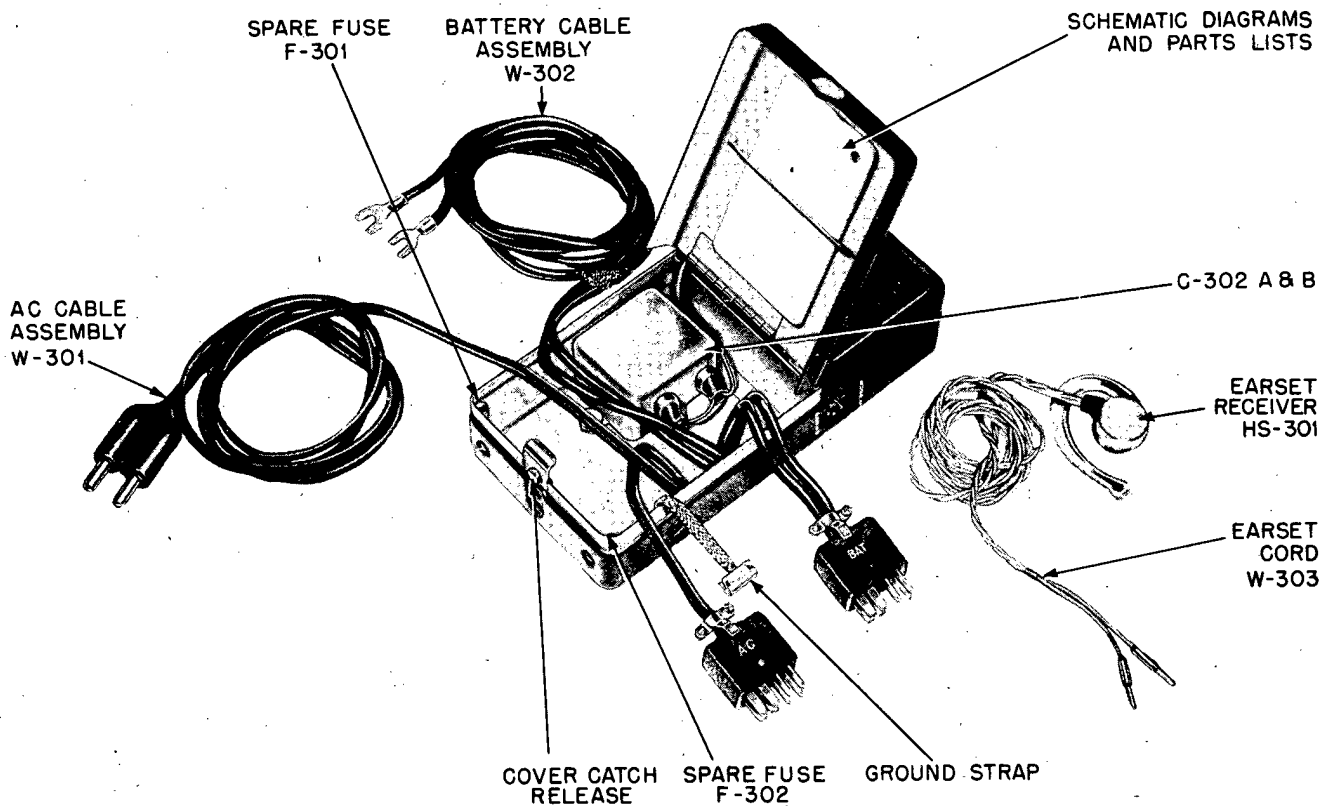

Figure 2. Filter-Accessory Unit RA-6-XX opened, showing accessories
- (1) Filters B+
- (2) Regulates receiver B+
- (3) Provides storage space for accessories and power cables. See Figure 2.